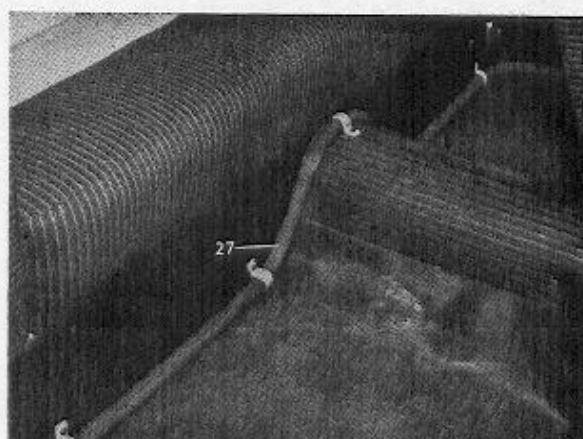

Fig. 16.
11. A hose (10) is taken from the junction (9) the same way as mentioned in 10 above and connected to both the servo cylinders by means of a T-joint (25) which is fitted with a plug. See Fig. 2. The hose link between both the servo cylinders (27) is shown in Fig. 16.